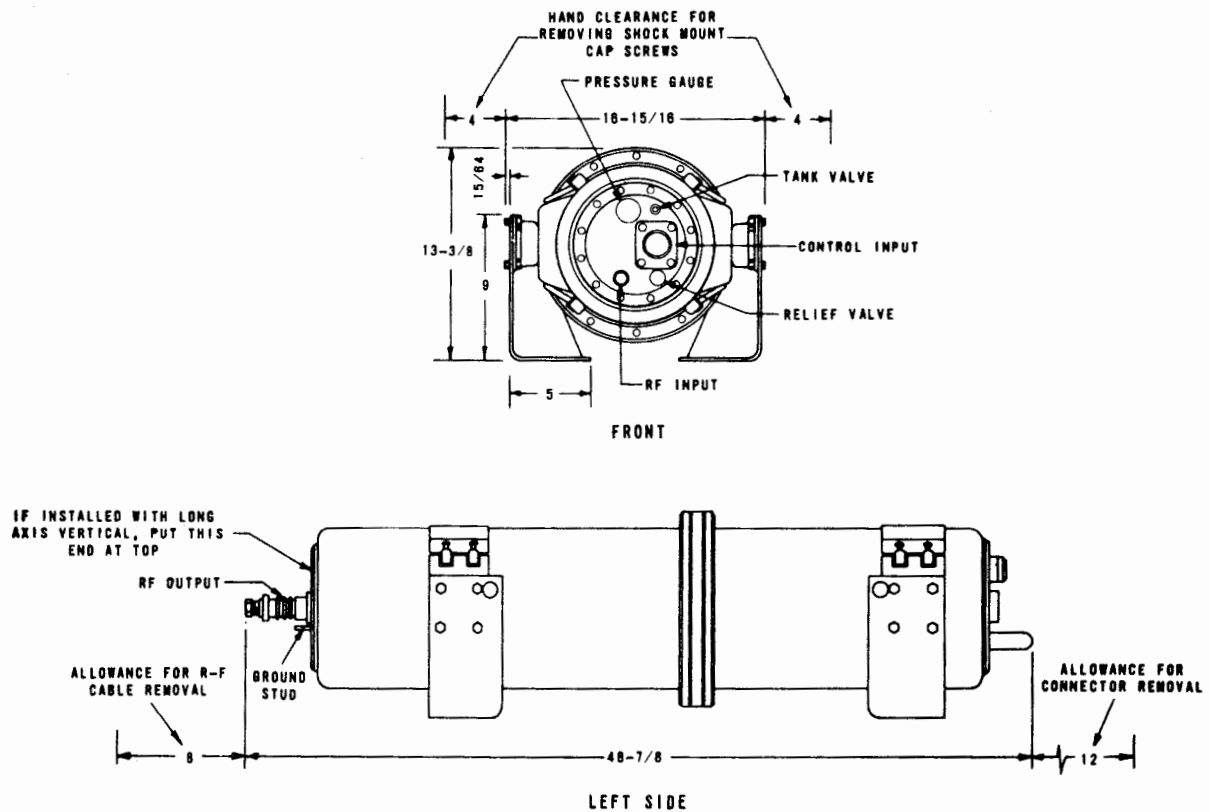

Figure 6-23 Radio Frequency Tuner TN-342/WRT-2
- b. PHYSICAL CONFIGURATION. - See Figure 6-23.